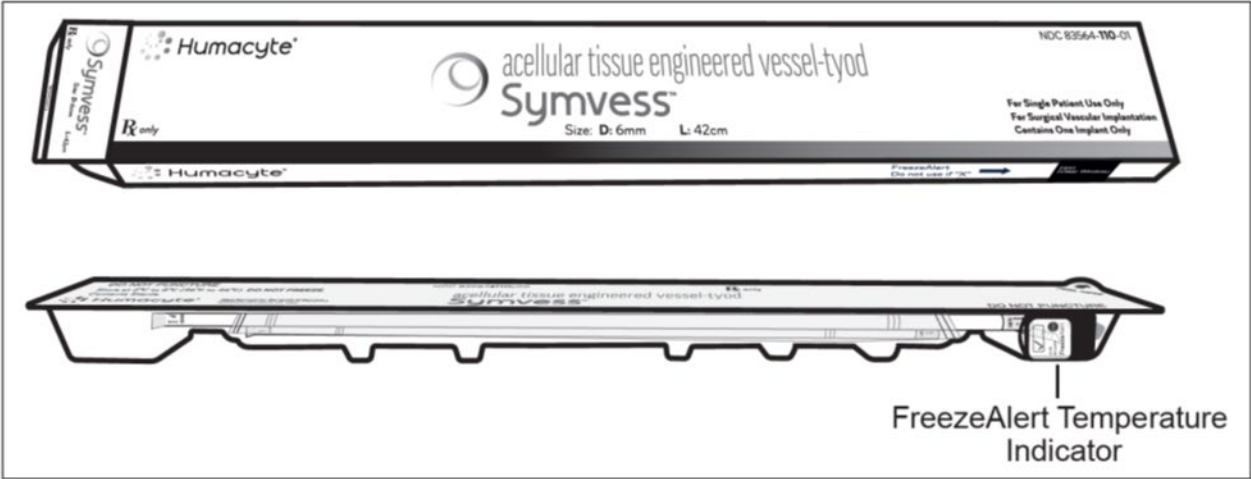

Figure 1: SYMVESS box and plastic tray
Step 1: SYMVESS box contains a plastic thermoformed tray with a Tyvek® lid. Open the box and remove the plastic tray (Figure 1).